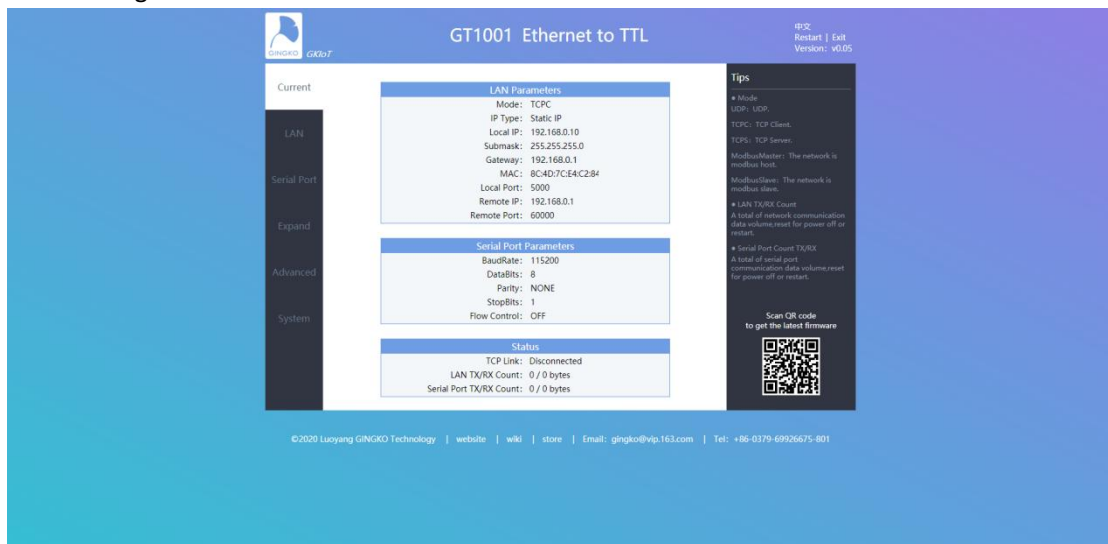

Figure 6-1 Built-in main interface
2. Enter the user name and password in the login interface. The default user name and password are admin. Click Login to enter Enter the main interface of the built-in webpage. As shown in Figure 6-1.